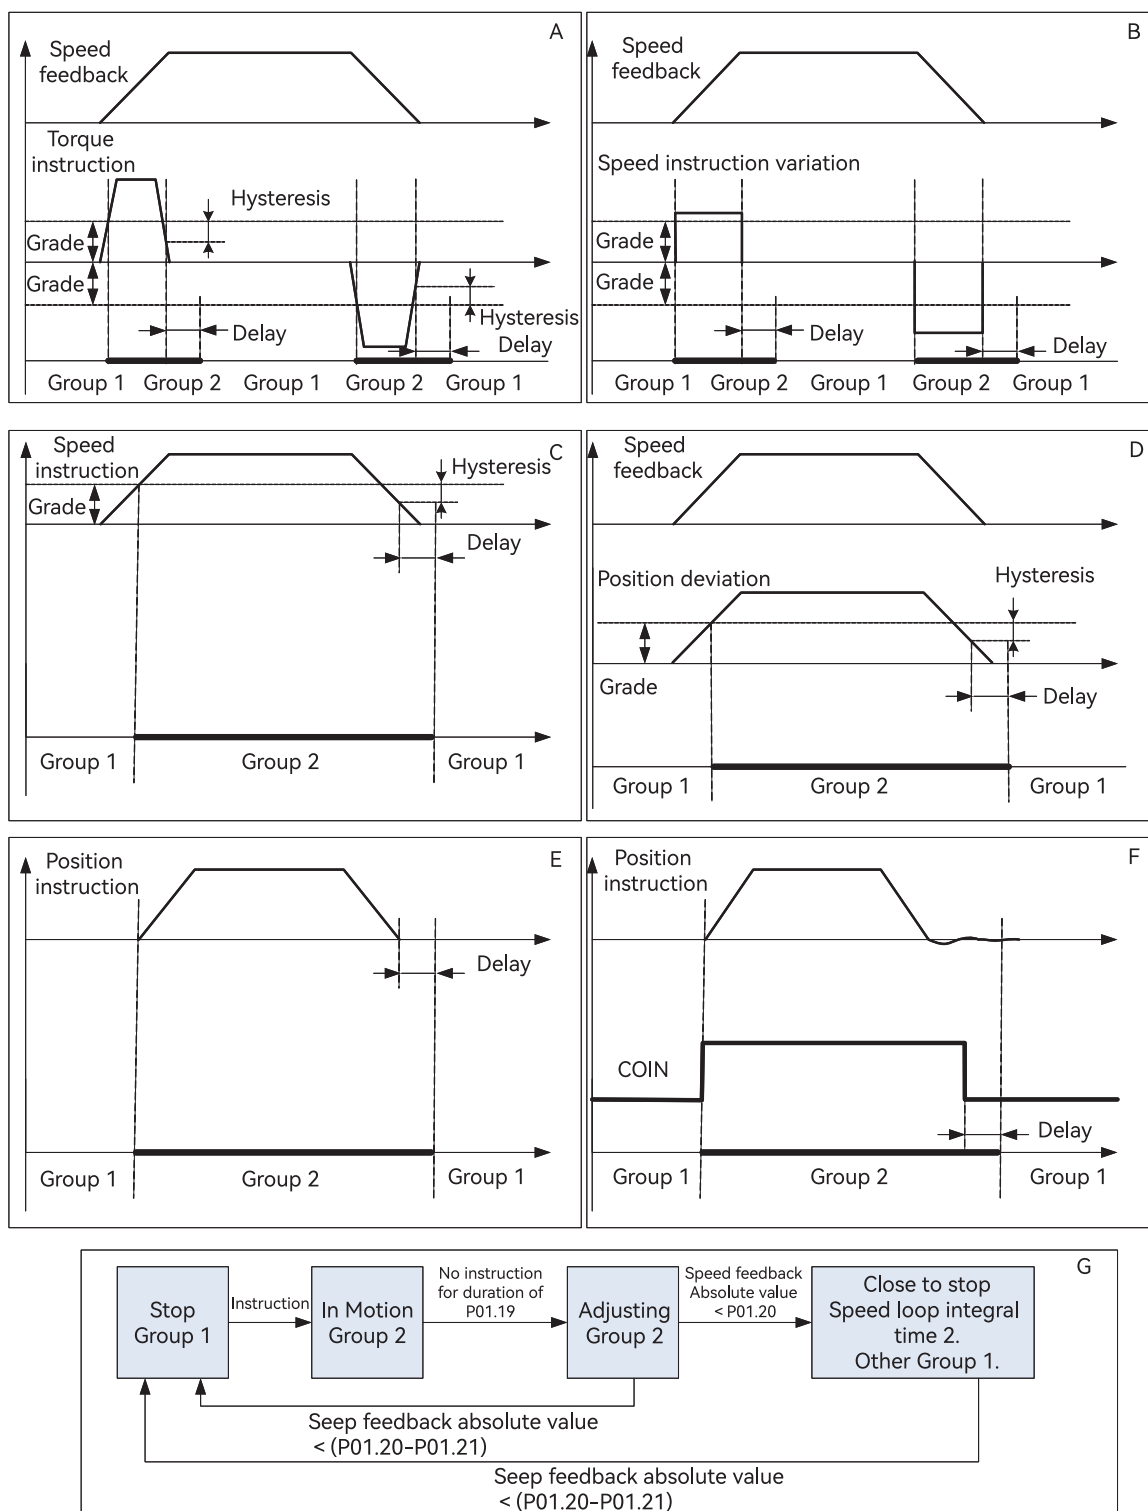

Figure 3.5 Timing diagram of gain switching under various conditions
◆ View the following timing diagrams in numbered order in the figure 3.5:
3. When P01.18 is equal to 10, the definition of each parameter is different from other modes, so please refer to the G diagram in figure 3.5 for comprehension.